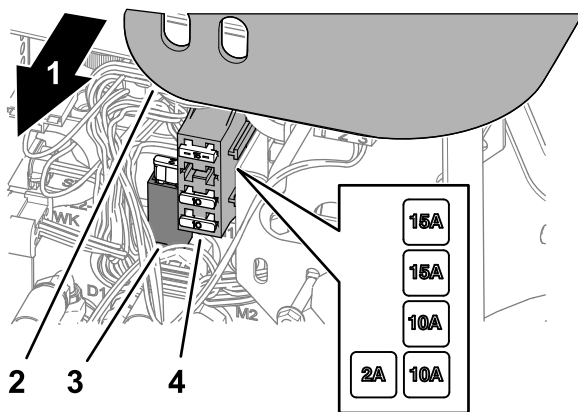

Figure 79
3. Locate the open fuse in the fuse holder or fuse block (Figure 79).
5. Assemble the cover onto the control arm (Figure 79).
2. Lift the cover from the control arm (Figure 79).